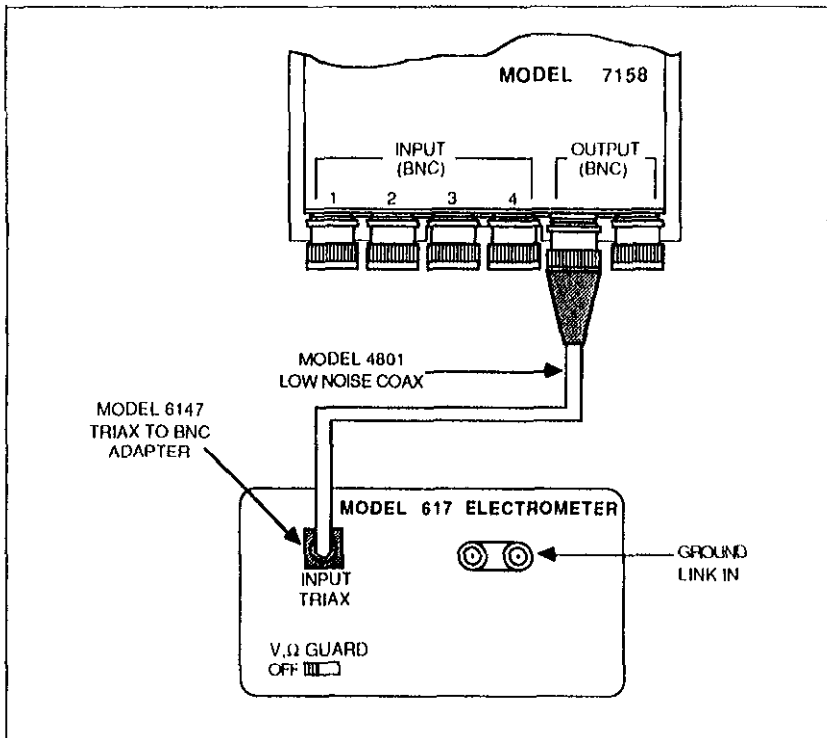

Figure 3-1. Offset Current
1. Set up the equipment as shown in Figure 3-1 with caps on all inputs and the unused output.